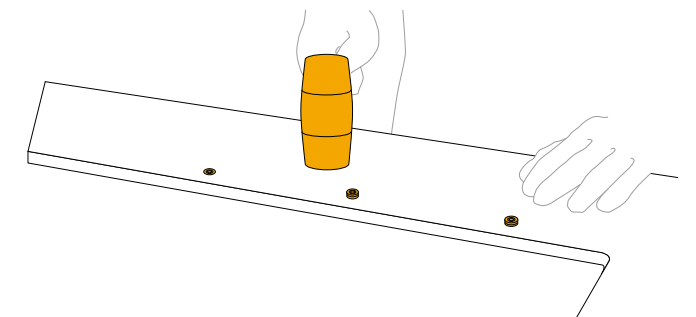

fig. 4
After inserting the bush in the hole, proceed to fix it completely using a rubber hammer (fig. 4).
- Then proceed to spread the glue on the surfaces to be coupled (fig. 4).